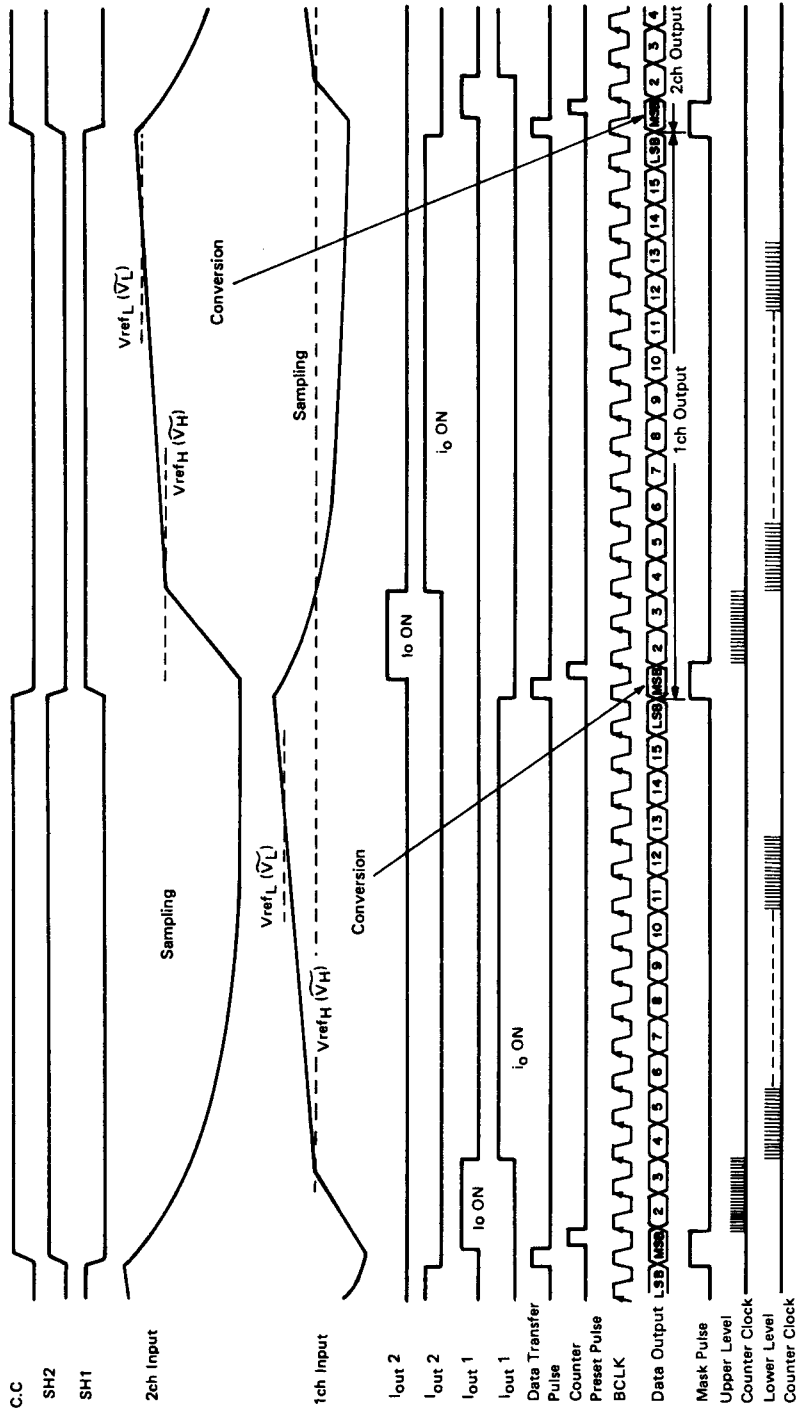

Fig. 3
Data are 16 bit serial signals and 2's complement. The serial data are synchronous with a rising edge of Bit clock (BCLK), and only MSB data is synchronized with a edge of "Conversion Command (CC)" (See Fig. 3)